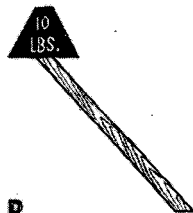

Figure 69. Bones, not muscular effort, support the rifle.
b. Figure 69 makes the idea a little clearer. In the first picture, the 10-pound weight has a steady support in the straight up and down stick. In the second picture, the stick is slanting; this is not a steady support for the weight. Hold your rifle as shown in the first picture. Do not hold it as shown in the second one. If you do, your muscles will not be able to hold the rifle steady.